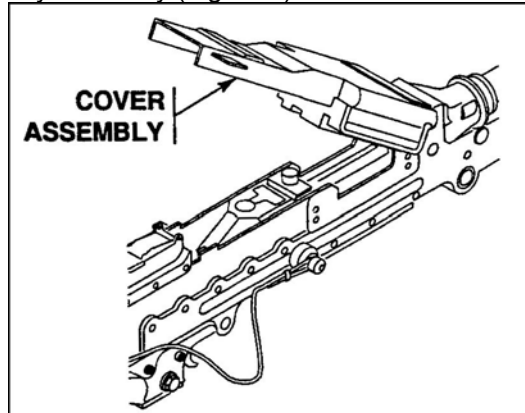

Figure 7. M240C cover assembly.
- (6) Open the feed tray assembly (Figure 7). Remove the residue.